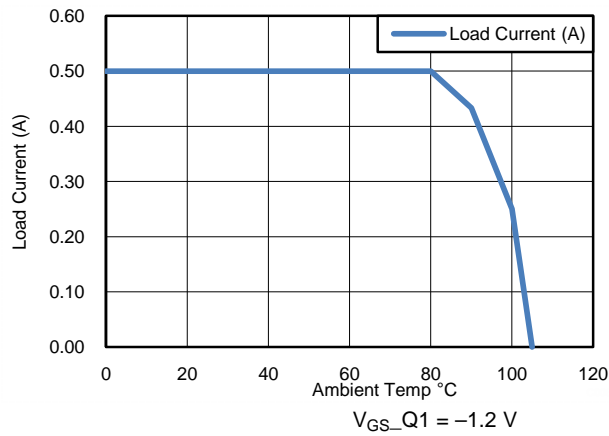

Figure 12. Q1 Safe Operating Area
- (1) Stresses beyond those listed under *Absolute Maximum Ratings* may cause permanent damage to the device. These are stress ratings only, which do not imply functional operation of the device at these or any other conditions beyond those indicated under *Recommended Operating Conditions*. Exposure to absolute-maximum-rated conditions for extended periods may affect device reliability.
- (2) Refer to TI's design support web page at www.ti.com/thermal for improving device thermal performance.
- (3) Pulse width <math> < 300 \mu\text{s}</math>, duty cycle <math> < 2\%</math>
- (4) $T_{J(max)}$ limits and other related conditions apply. Refer to SOA charts, Figure 8 through Figure 12.
- (5) Operating at the absolute $T_{J(max)} = 150^{\circ}\text{C}$ can affect reliability. For higher reliability, TI recommends maintaining $T_J < 105^{\circ}\text{C}$.